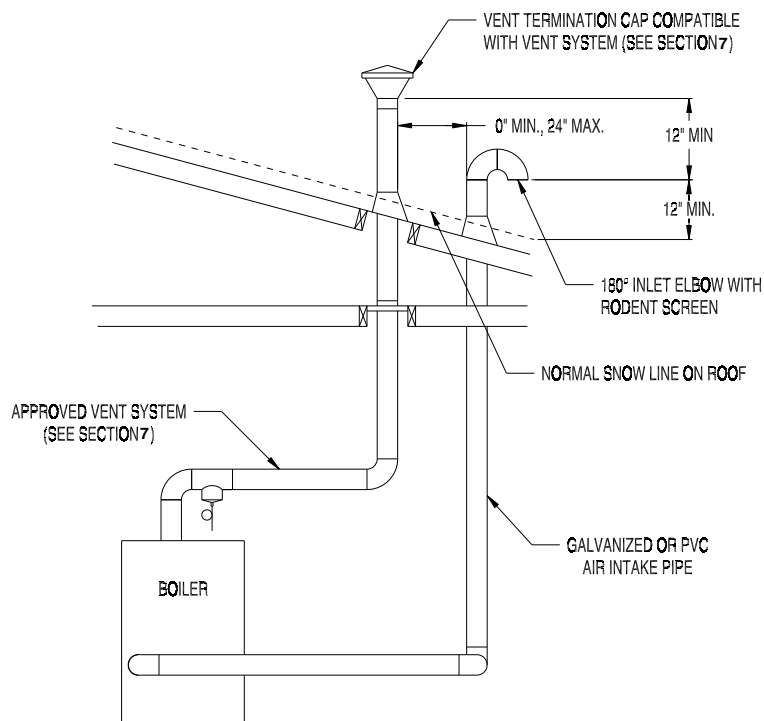

Figure A-6: Vertical Direct Vent System (Vent Options 8-10)
- b. Vertical systems use either the terminal provided with this kit or a 180° elbow (either a single fitting or two 90° elbows) as shown in Figure A-6 or A-7. Note that the 180° elbow is preferred if the intake terminal is frequently exposed to wind-driven rain. Except in very cold climates where ice build-up is a concern, it is recommended that a rodent screen be installed in the end of the 180° elbow. When this is done, use stainless steel, galvanized steel, or non-metallic screen having ½ in. mesh.
5. Vertical terminal location - Install the intake terminal as shown in Figure A-6 or A-7. The vertical distance between vent and air inlet terminal openings must be at least 12 in. The bottom of the air inlet terminal must be at least 12 in. above the normal snow accumulation that can be expected on the roof.